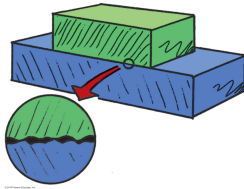

Figure 4.3
2. Explain what Figure 4.3 is attempting to show.